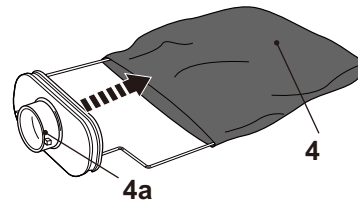

Fig. 3
- > Remove the dust bag (4) from the connector (4a) (Fig. 3) by gently pulling on the elasticated collar and empty dust into a suitable rubbish bag.